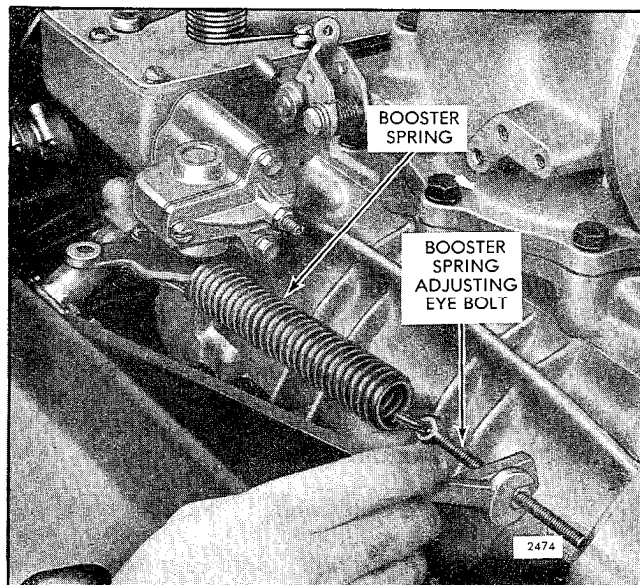

Fig. 7 - Adjusting Booster Spring
2. Refer to Fig. 7 and loosen the booster spring retaining nut on the speed control lever. Loosen the